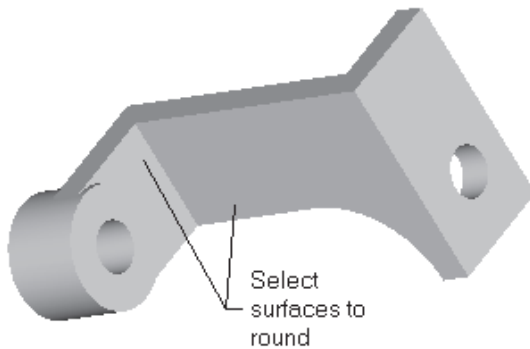

Figure 5-44 Planar surfaces for creating round of radius 5
4. Spin the model and select the surfaces that are shown in Figure 5-44. The **Message Input Window** is displayed with a default value.